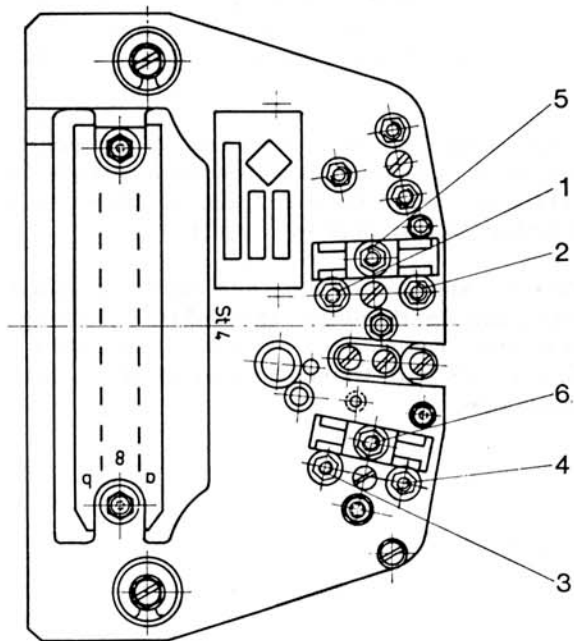

Fig. 13 Head assembly
6.1. Heads (see Fig. 13)
The head can be adjusted in height and in a front to back direction of movement by means of the screws (Fig. 13, items 1 and 2, or 3 and 4) after loosening the lock nuts.